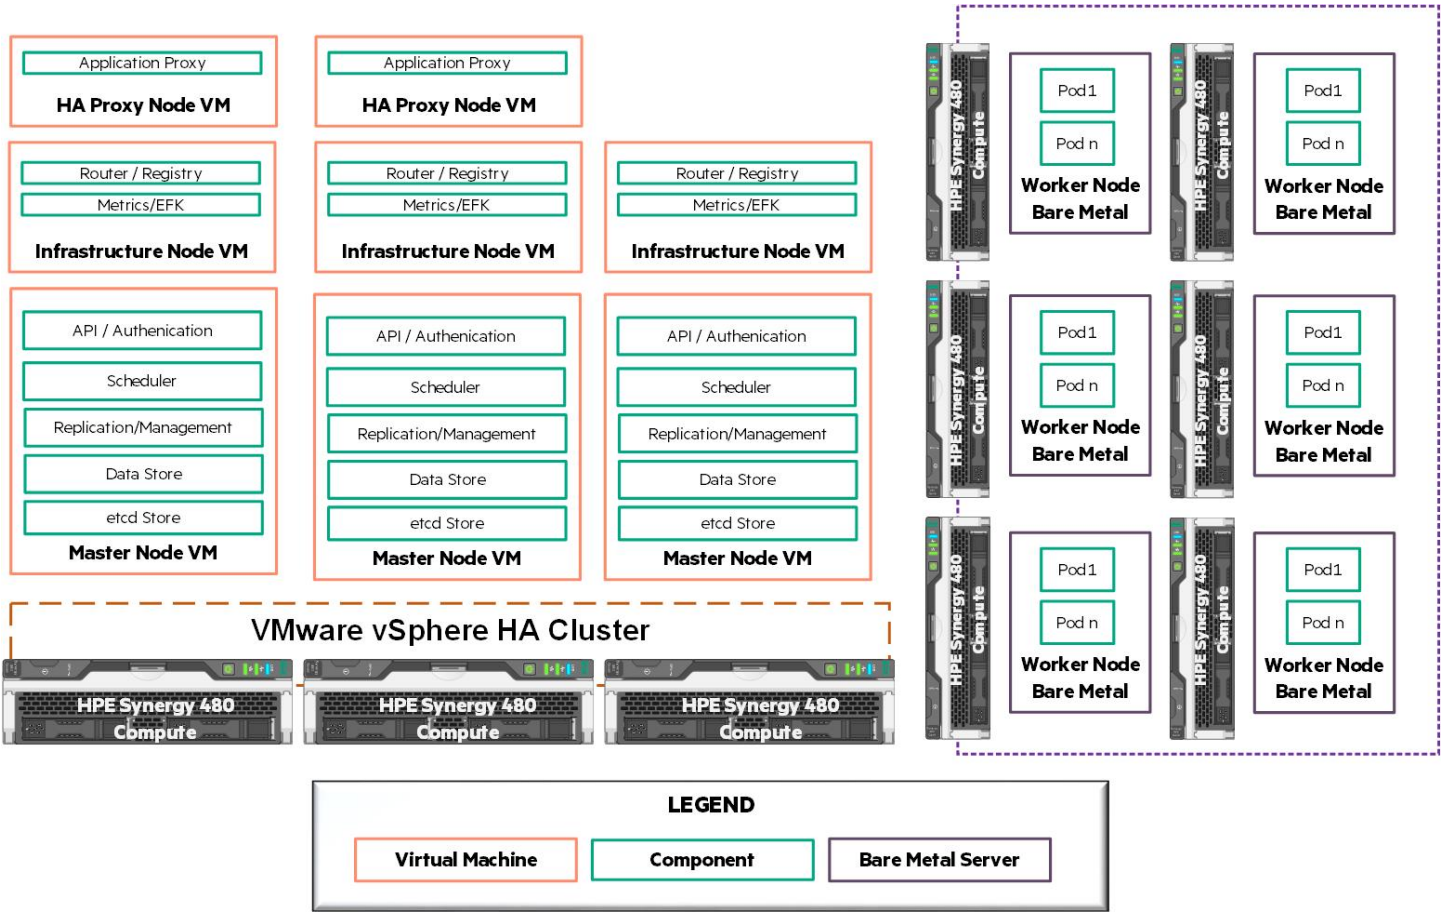

Figure 16. Red Hat OpenShift implementation with virtual machines for core management functions
Red Hat OpenShift Container Platform requires a number of redundant functions. These functions may be hosted on either physical compute modules or on virtual machines, both of which run Red Hat Enterprise Linux 7.6. For this solution, Hewlett Packard Enterprise chose to implement these functions as virtual machines. This approach reduces the amount of infrastructure required while introducing enhanced options for management and high availability. Three (3) HPE Synergy 480 Gen10 Compute Modules host the virtual machines shown in Figure 16. This figure also shows that the worker nodes run on bare metal. While the solution was tested with six (6) worker nodes, it is scalable to include many more. While worker nodes are depicted as physical resources in Figure 16, the hosts can be deployed as hypervisors and the workers can be deployed as virtual machines in variable quantities according to the container requirements.